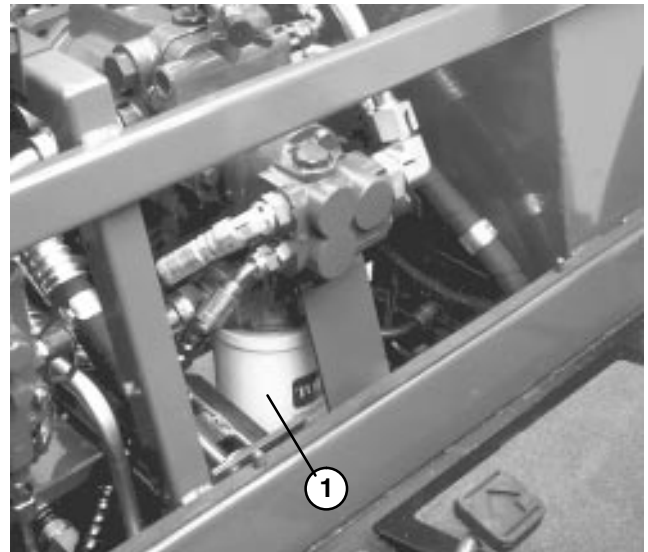

Figure 39
2. Clean area around filter mounting area (Fig. 39). Place drain pan under filter and remove filter.